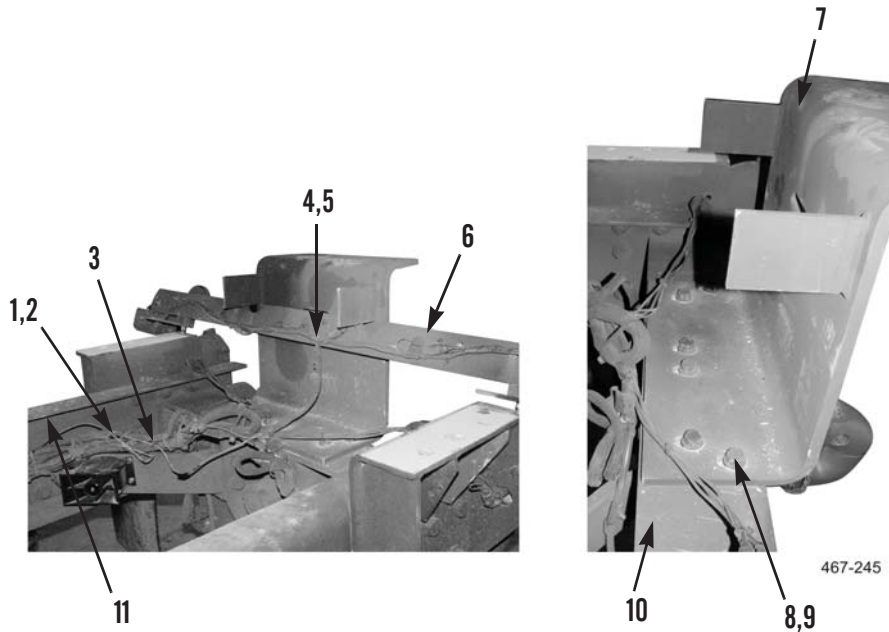

Figure 2. Light Bar and Bumper Stop Removal.
1. Remove bolt (Figure 2, Item 1), nut (Figure 2, Item 2), and ground strap (Figure 2, Item 3) from right side frame (Figure 2, Item 11). Set nut and bolt aside for reinstallation.
2. Disconnect light bar wiring harness (Figure 2, Item 4) from vehicle wiring harness (Figure 2, Item 5).
3. Remove rear light bar (Figure 2, Item 6) from vehicle and set aside for disassembly and reinstallation.
4. With assistance, remove six nuts (Figure 2, Item 8), bolts (Figure 2, Item 9), and bumper stop bracket (Figure 2, Item 7) from frame (Figure 2, Item 10). Set aside for reinstallation.